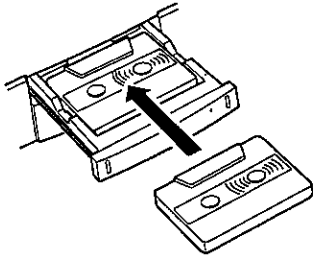

Fig. 16
3. Place the cassette on the cassette tray (Fig. 16).